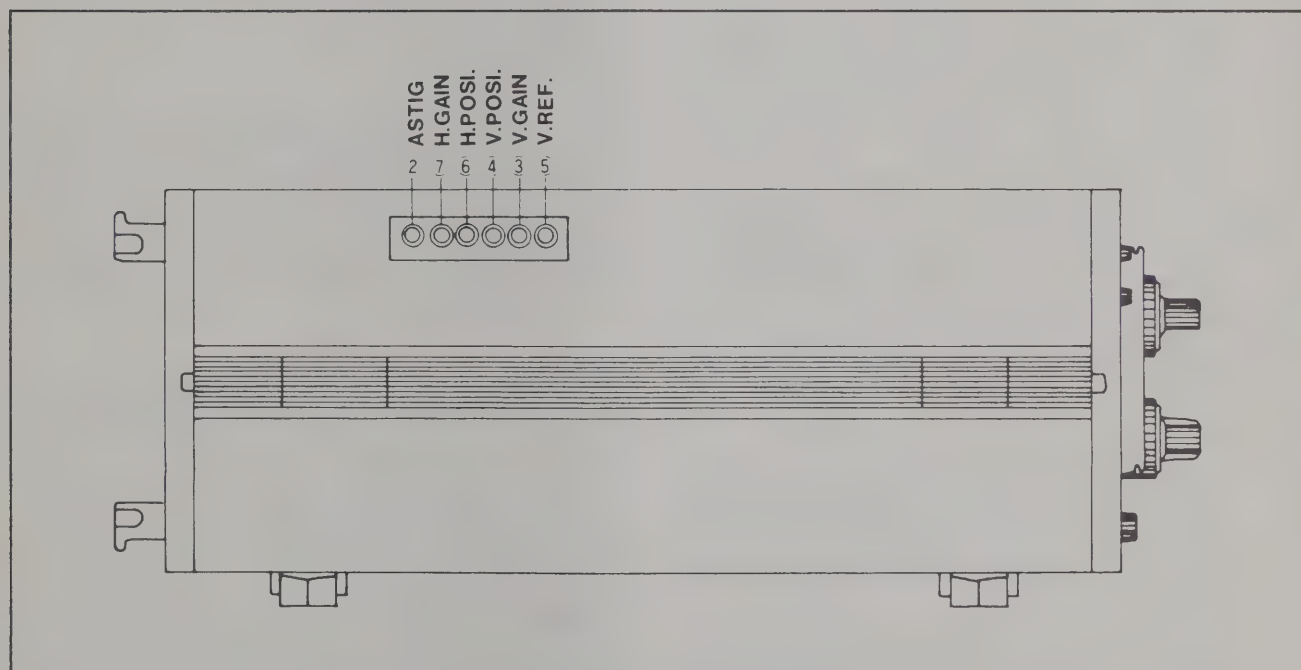

Figure 3.9 CRT Display Calibration
**3.4.2.2.1** A series of screwdriver adjustable calibration controls are located on the left upper side of the unit (see Figure 3.9). These adjustments are utilized for calibration of the CRT DISPLAY functions whenever waveform distortions or amplitude
**3.4.2.2.4 Focus Calibration:** If the trace sharpness cannot be adjusted by the front panel FOCUS control; adjust the ASTIG. (ASTIGMATISM) control (see Figure 3.9).
**3.4.2.2.5 Vertical-Axis Scale Calibration:** If the signal amplitude level on the CRT DISPLAY does not change in 10 dB increments whenever the RF ATTENUATOR, IF GAIN, or input signal is changed by 10 dB; adjust the V. GAIN control (see Figure 3.9).
**3.4.2.2.6 Baseline Calibration:** Set the outer section of the IF GAIN switch to 0 dB and the 10 dB/DIV., 5 dB/DIV., LINEAR switch to 10 dB/DIV. If the trace has deviated from the baseline, adjust the V. POSI control (see Figure 3.9).
**3.4.2.2.7 Vertical-Axis REFERENCE LEVEL Calibration:** Switch the Vertical Axis Scale Selector switch between the 10 dB/DIV. and 5 dB/DIV. positions. If the amplitude level of an input signal (CAL signal may be used) shift at the reference point between the two switch positions, adjust the V. REF. control (see Figure 3.9) until no amplitude shift is detected.
**3.4.2.2.8 Horizontal-Axis Position Calibration:** Utilizing the CAL OUT signal, switch the DISPERSION/DIV. switch from 100 MHz/DIV to 0.1 MHz/DIV. If the signal spectrum at the center of the CRT DISPLAY moves, the H. POSI. (see Figure 3.9) must be adjusted in the following manner:
**3.4.2.2.9 Horizontal-Axis Scale Calibration:** Again utilizing the CAL OUT 100 MHz signal and with the DISPERSION/DIV. switch set to the 100 MHz/DIV. position; the horizontal axis scale of the CRT DISPLAY should be 100 MHz per division. If not, adjust the H. GAIN control (see Figure 3.9) for the correct scale setting.